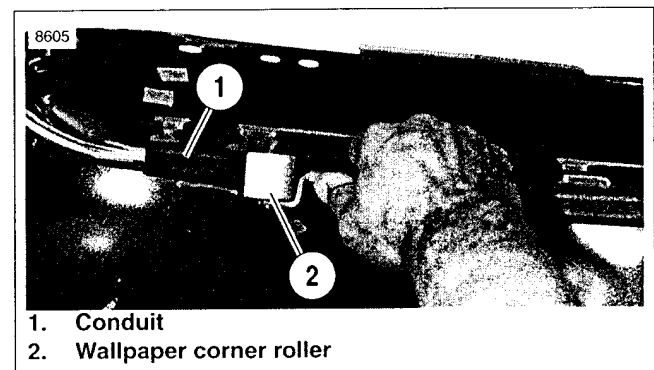

Figure 2-119. Purging Air Between Adhesive and Fender
5. Using a wallpaper corner roller (available at most home improvement stores), roll along conduit to purge the air from between the adhesive and the fender. See Figure 2-119.